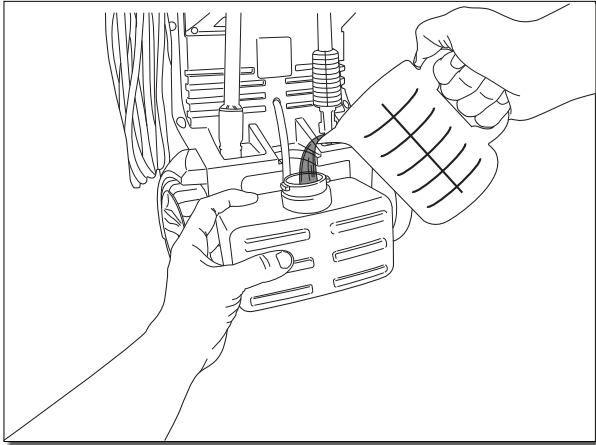
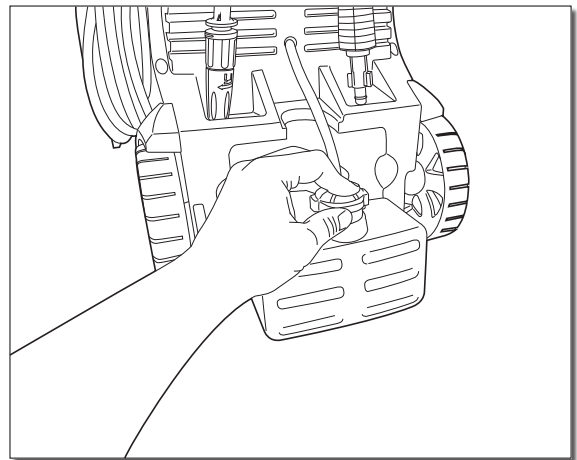

Fig. 11
Fig. 12
- When using the detergent, fill it with a properly formulated detergent or cleaner with water ratio according to instructions on the container (**Fig. 11**). The detergent bottle comes with a straw which is fitted into the screw-on top. If you don't see the straw, look inside the bottle and attach it to the screw-on top (**Fig. 12**).